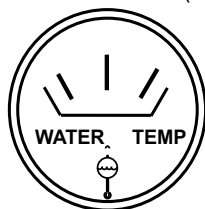

Figure 56. Coolant Temperature Gauge
14. The coolant temperature gauge (Figure 56) will indicate the coolant temperature. Under normal operating conditions the coolant temperature should be between 165 and 215 degrees Fahrenheit (Green Zone).